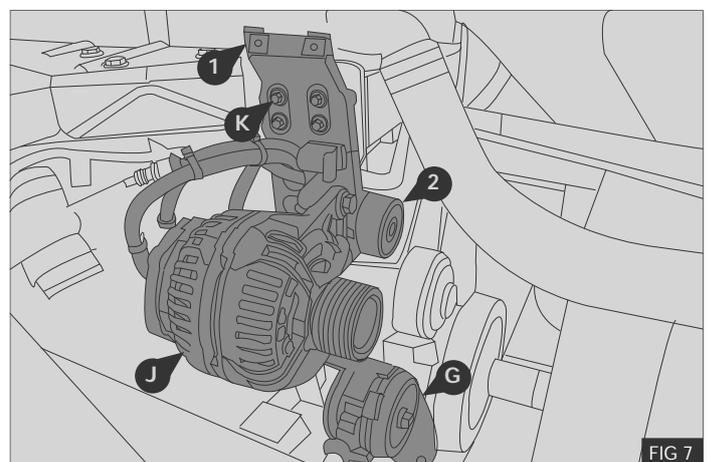

FIG 7
7. Fit the automatic belt tensioner (G) to the supplied bracket (1) and torque the fixing bolt to 35Nm / 26 lb.ft - Fig.7
8. Fit the alternator (J) to the supplied bracket (1) using the original bolts and torque to 35Nm / 26 lb.ft
9. Reconnect the wiring loom to the alternator (J)
10. Fit the supplied idle pulley (2) to the bracket (1) and torque to 35Nm / 26 lb.ft - Fig.7